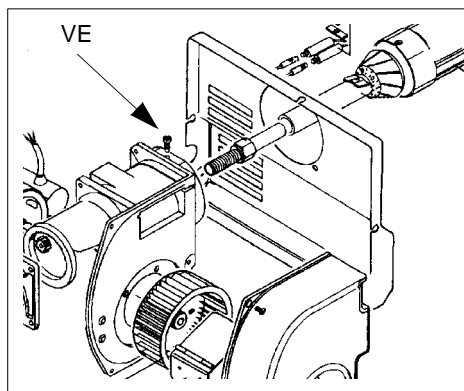
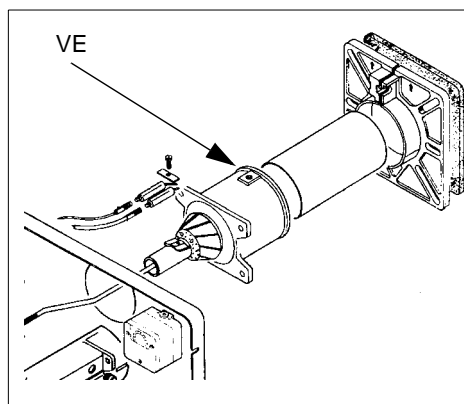
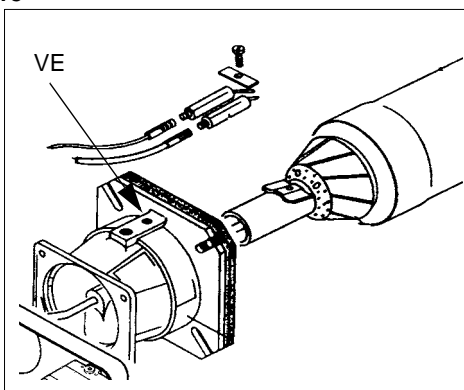

Fig. 31a
Fig. 31b
Fig. 31c
- Remove, check and clean the combustion head (see Fig. 31a, Fig. 31b, Fig. 31c);
Type S3 (Fig. 31a) and S5 (Fig. 31b)
Type S10 - S18 (Fig. 31c)